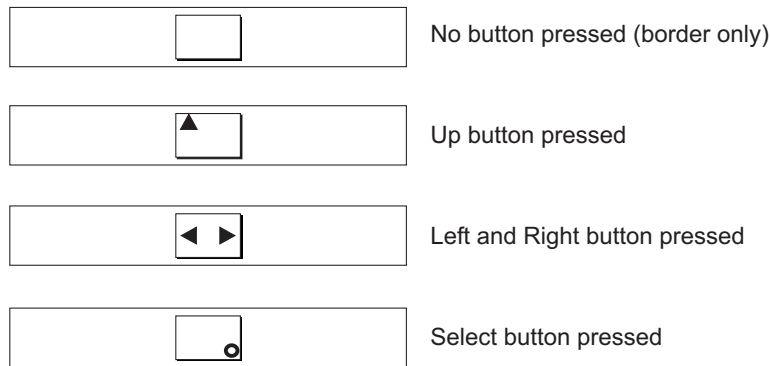

Figure 53. Front panel display when push buttons are pressed
3. Press the up, down, left, and right buttons to verify that they are working. Figure 53 shows four examples of what the front panel should display when you press the buttons. When you have finished testing the buttons, press and hold the select button for five seconds in order to exit the test.